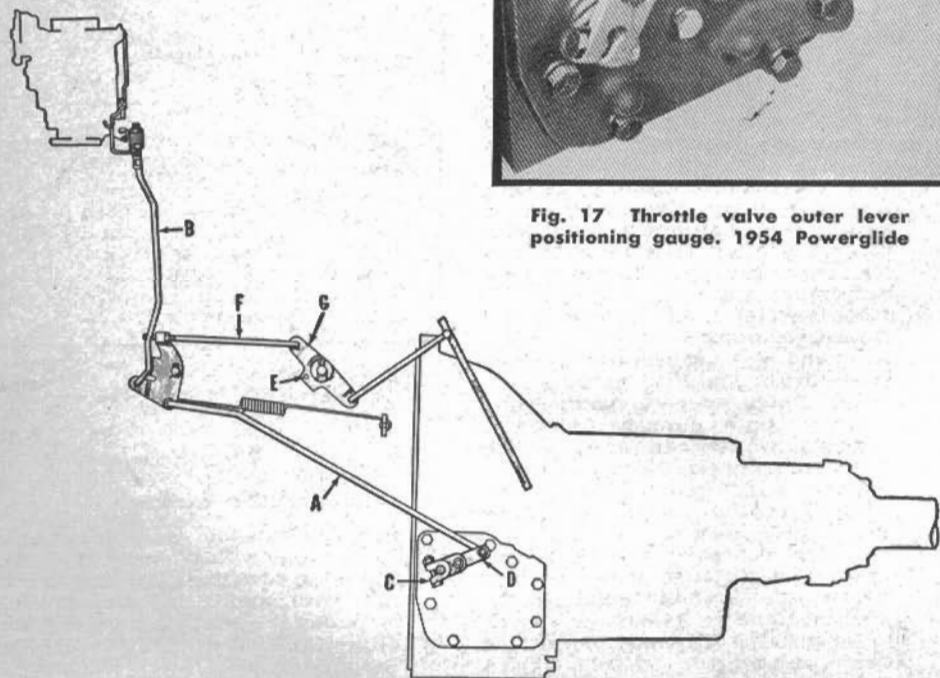

Fig. 16 Powerglide linkage. 1954
3. Disconnect rod "A" from throttle lever "D", Fig. 16.